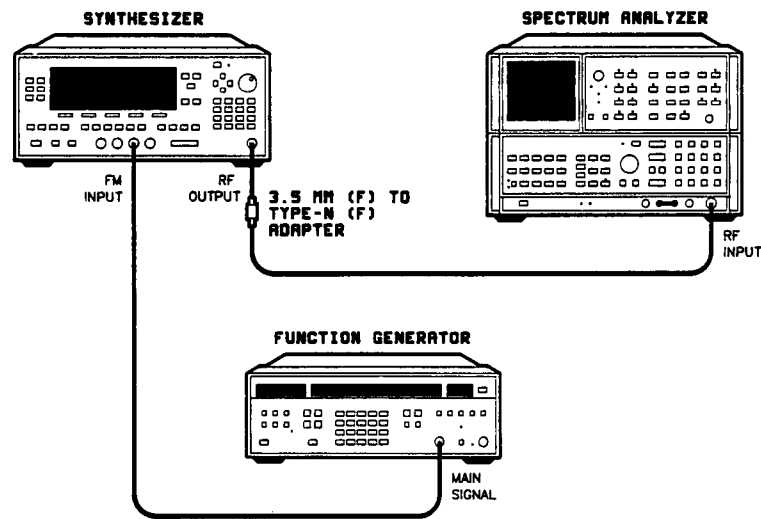

Figure 3-36. FM Gain Adjustment Setup
1. Connect the equipment as shown in figure 3-36. Preset all instruments and let them warm up for at least one hour.